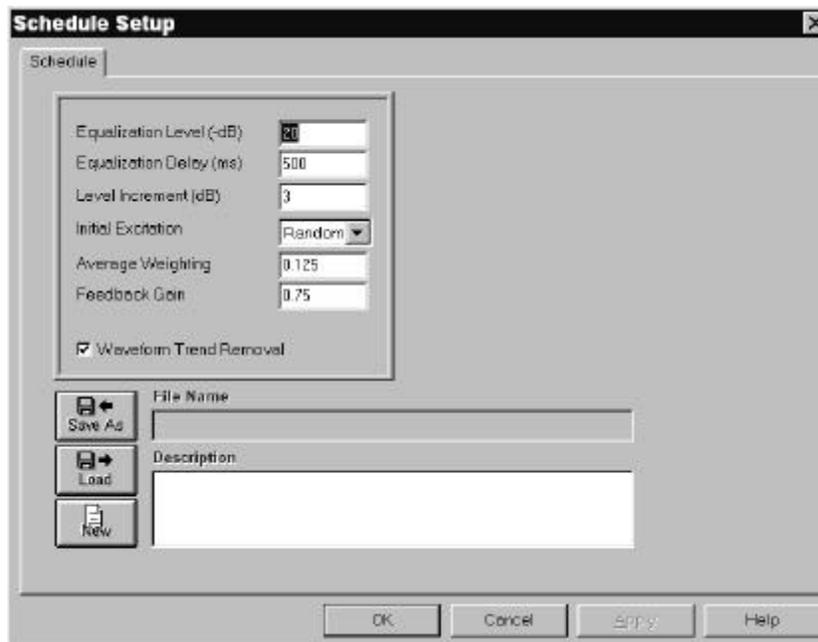

Figure 1-9. Classical Shock Schedule Setup Window
5. Click **SETUP** ⇒ **SCHEDULE** or the <Setup Schedules> Button. The **Schedule Setup** Window appears. See Figure 1-9.